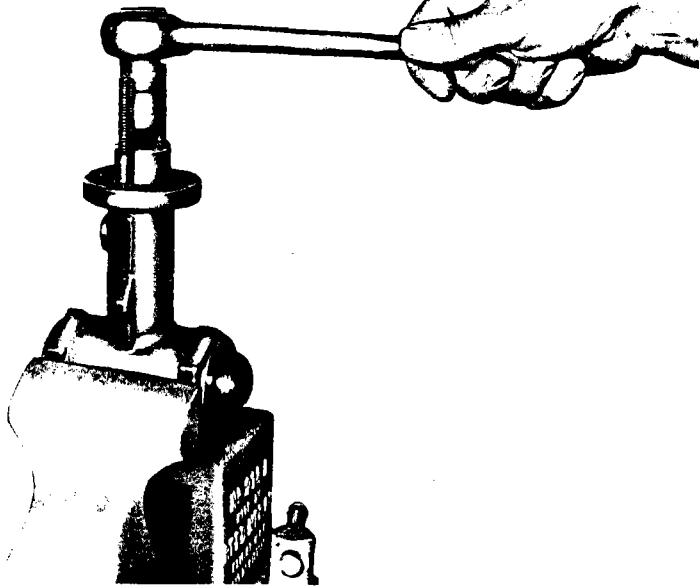

Fig. 11 Tightening the Seat Ring Retainer
Trim removal (Figs. 11, 14 & 15)
Trim reassembly (Figs. 11, 14 & 15)
1. Place gasket (2) on seat ring (3) and install both in the valve body. Orient seat ring with a port in line with the body outlet. Liberally lubricate the threads and bottom of retainer (4) with Molykote G.
2. With a 9/16" or 14 mm piece of hex stock, torque the retainer to 75 ft. lb. if a grafoil/stainless steel gasket or 40 ft. lb. if a glass filled Teflon gasket. (See figure 11.)
3. Replace plug (12) spacer (5) and packing (6) aligning the hole in the spacer with the safety pin hole in the valve body. Install safety pin (11) and plug (1) using Teflon tape on the thread.
4. Replace packing, positioning the skive cut of each packing ring 120° away from the cut of an adjacent ring. Install actuator bracket (108), packing box parts, grommet plate (101), spring (106), spring button (102), nut (103) and clevis (104).